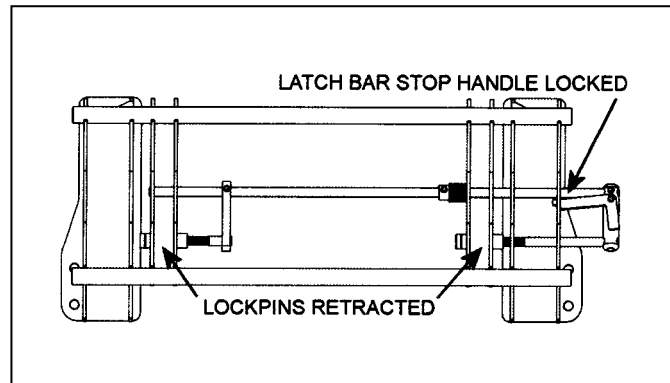

Figure 2. Latch Bar Stop Handle - Locked
6. Disengage attachment-locking mechanism (mechanical type) by pulling lockpin weldment outward until latch bar stop handle is in locked position. Figure 2.